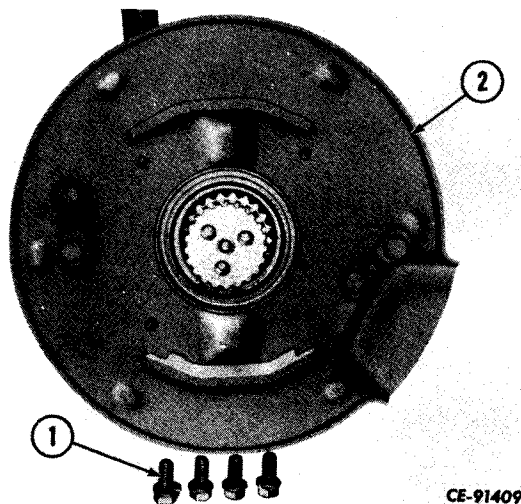

Figure 5-19
Remove cap screws and lock washers (1, Fig. 5-19) that secure backing plate (2) to transfer drive housing.
Install parking brake backing plate (2, Fig. 5-19) on transfer drive and secure with cap screws and lock washers (1).